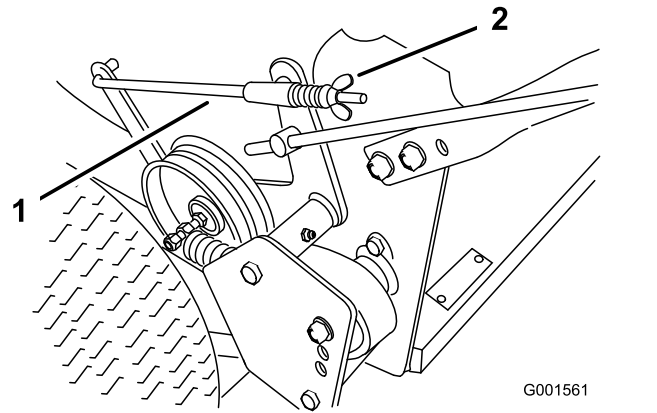

Figure 35
3. To adjust the brakes, rotate the wing nuts on the brake rods (Figure 35).